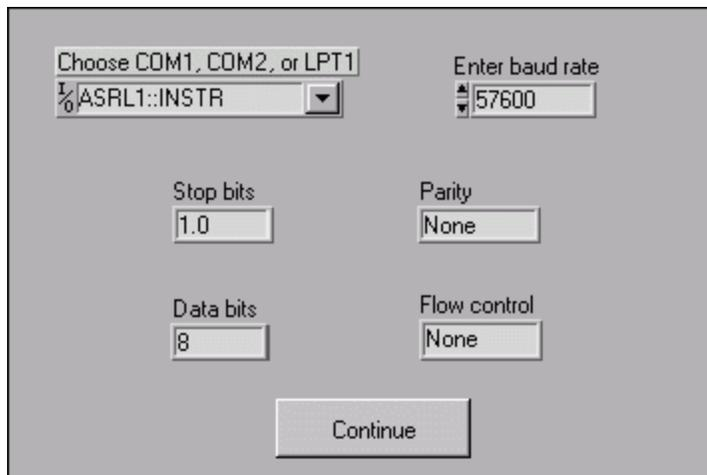

Figure 4. Enter Serial Port Settings Front Panel.
- Enter serial port settings and click Continue (see **Figure 4**)